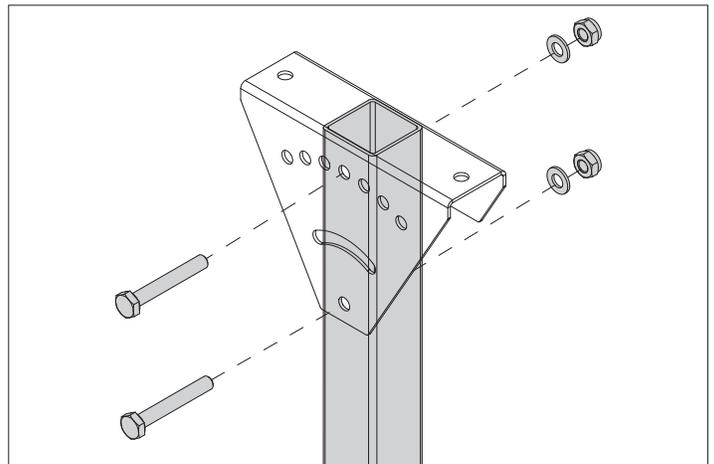

Fig. 4.5.1 Drill the holes in the support leg (ceiling mounting).
- Fasten the top suspension upper bracket to the support leg. Pre-drill 0.2 in (5 mm) and then 0.42 in. (10,5 mm) that align with the holes in the bracket. Position the bracket on the leg so it is centered, then drill the third hole in the leg. Refer to fig. 4.5.1.